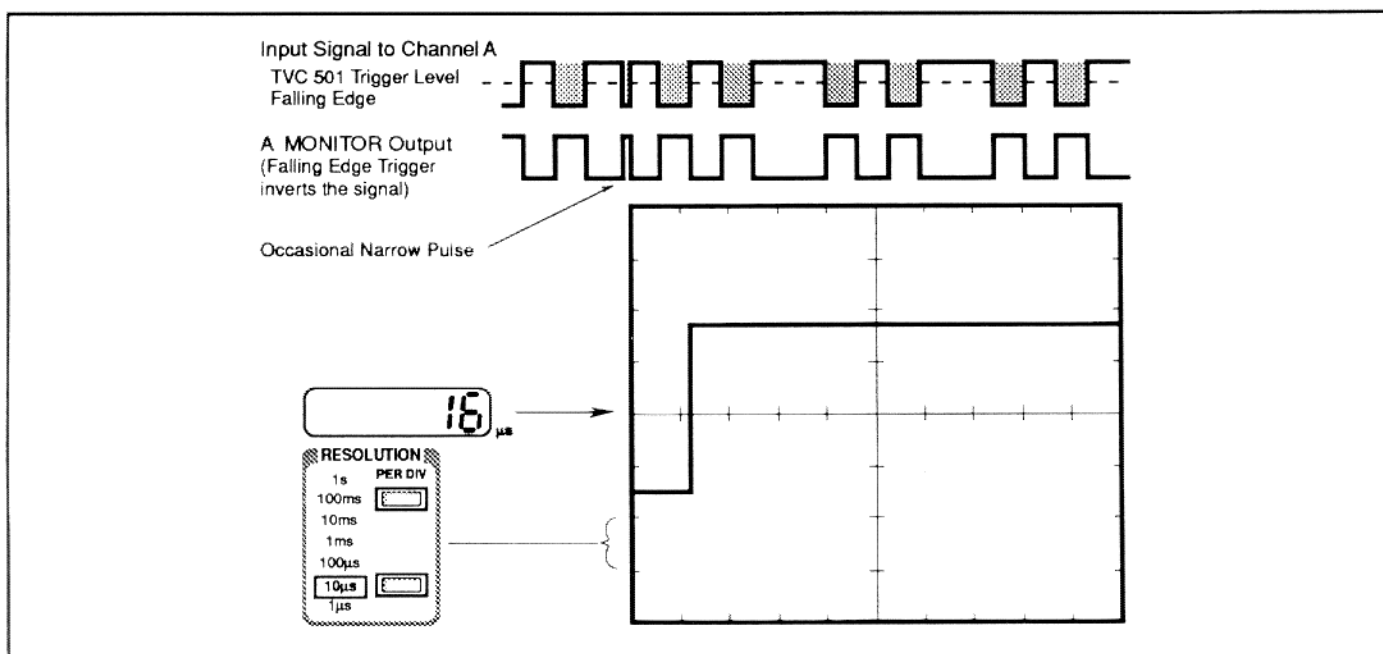

Figure 4-16. Detecting a Timing Anomaly. An occasional narrow pulse is measured and detected by triggering the oscilloscope on the shorter time.
11. Change the TVC 501 offset to 16 μs. You should see a waveform similar to that in Figure 4-16. The vertical step displayed represents the pulse-width difference between the narrow pulse and the "normal" pulses.